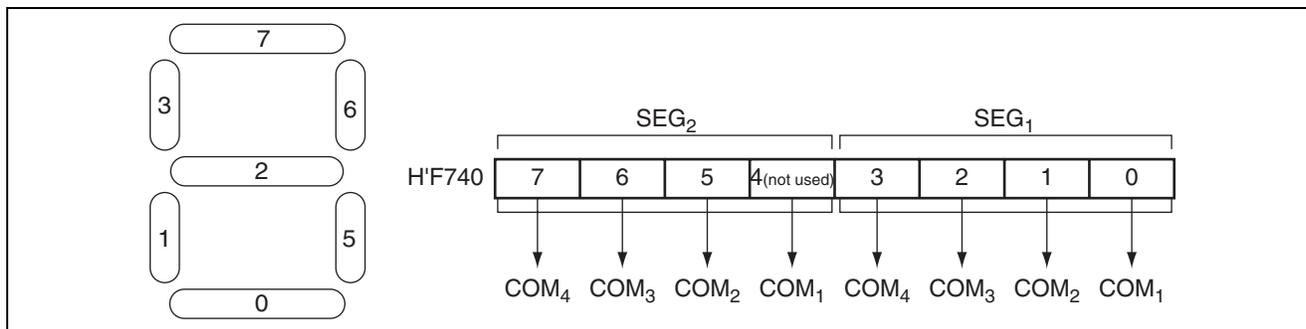

Figure 2.5 Relationship between LCD Lit/Unlit States and LCD RAM Settings
7. Figure 2.5 shows the relationship between SEG₁ and SEG₂ display on the 6-digit 7-segment LCD and the corresponding LCD RAM bits. As shown in figure 2.5, when the LCD RAM bits for segments 0 to 7 are set to 1, the corresponding segments are lit; when cleared to 0, the corresponding segments are unlit.